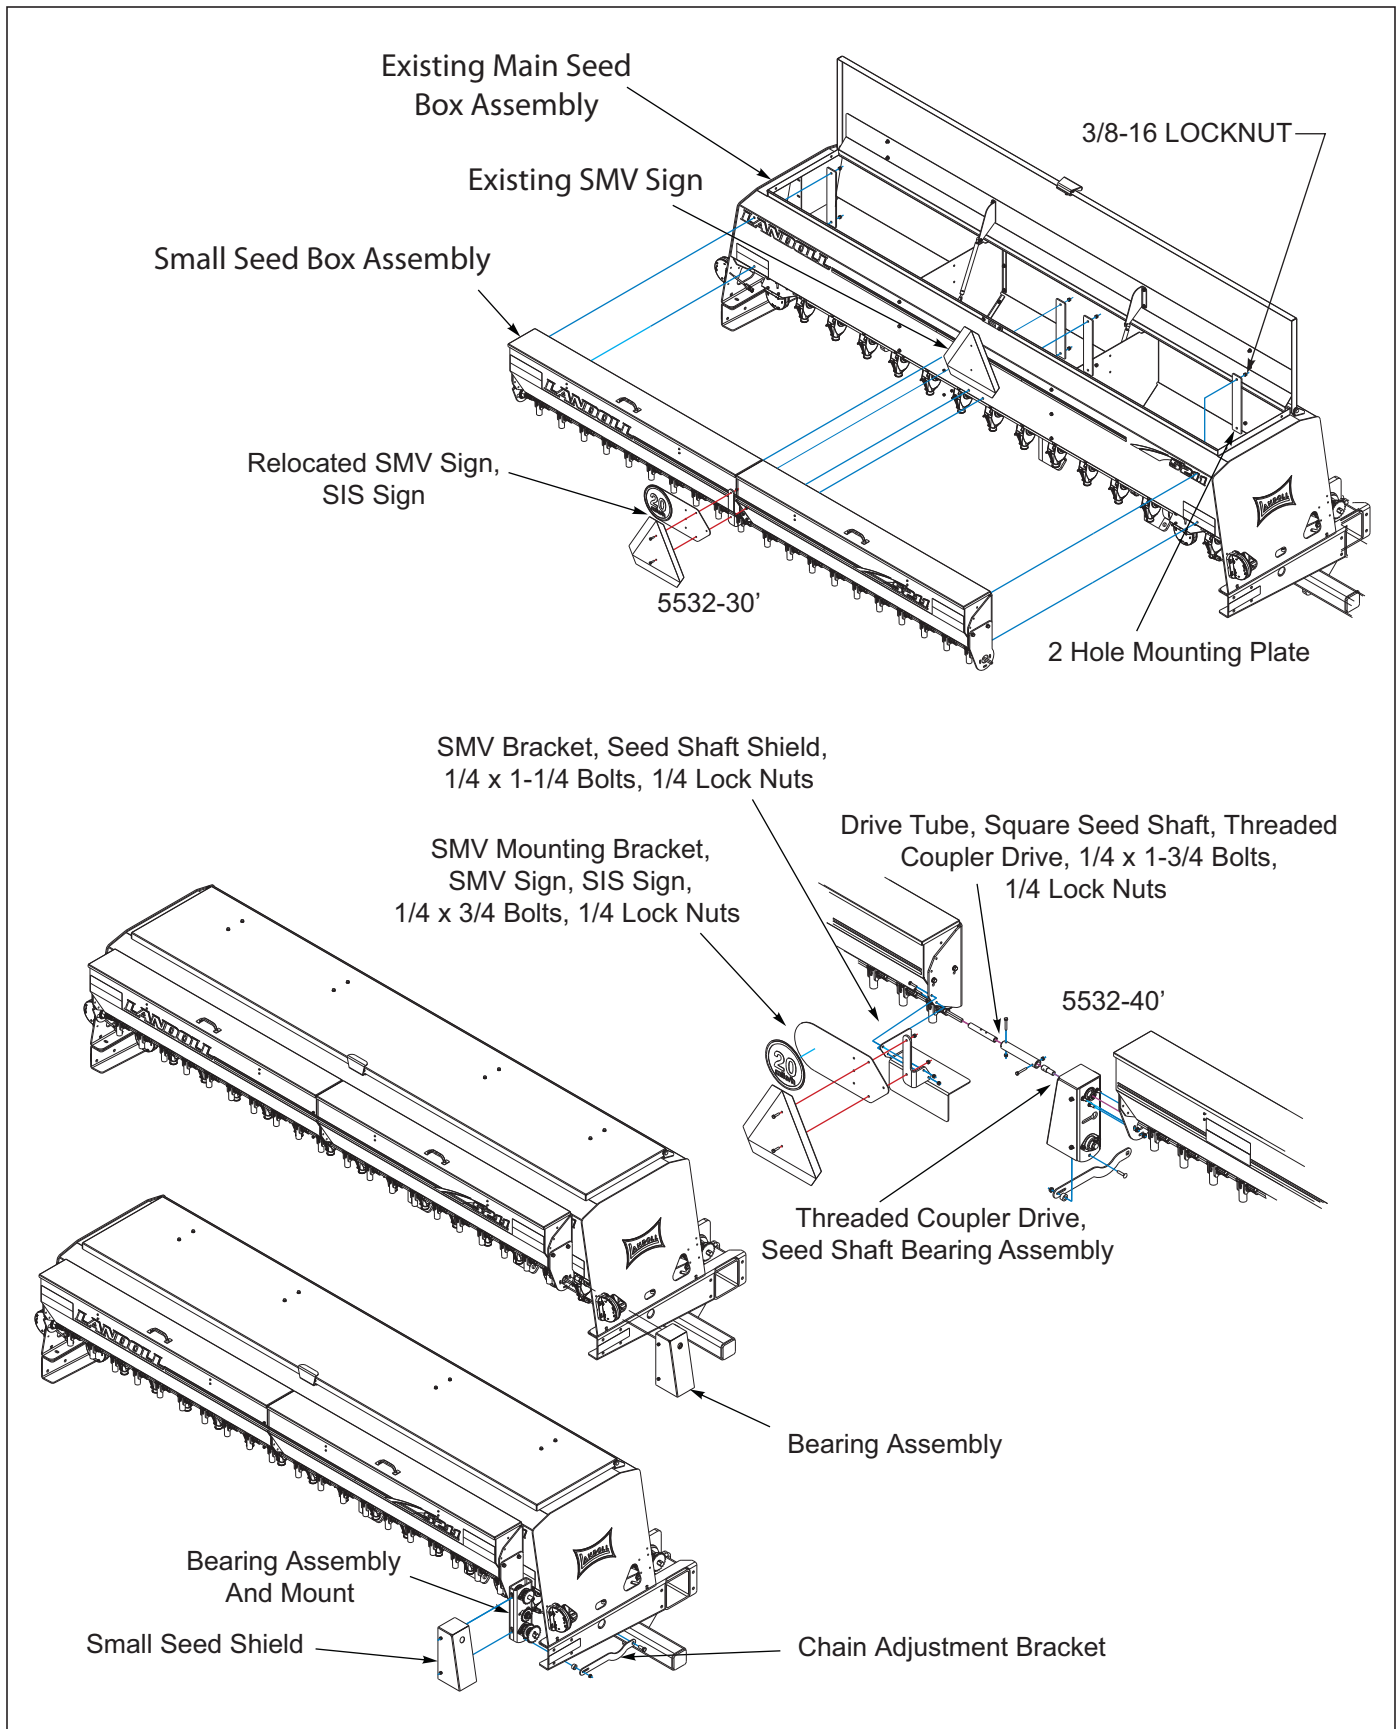

Figure 3-3: Small Seed Assembly Overview
See Figures 3-3 for small seed attachment overview. Use these instructions to install the optional small seed attachment to the rear main seed box of the 5532 Grain Drill.
4. Remove the 3/8" hex lock nuts and 2-hole mounting plates from the front of the small seed box assembly **See Figure 3-3**.
17. For 40' drills, wing braces screw the threaded coupler drive into the open end of the seed shaft bearing assembly on each wing **See Figure 3-3.** Slide the square end of the drive tube over the square seed shaft of the left small seed box. Connect the drive tube and threaded coupler drive with the 6" shaft coupler using 1/4-20 x 1-3/4 hex head cap screws and hex lock nuts.
20. Attach the SMV sign and SIS sign to the SMV mounting bracket with 1/4-20 x 3/4 hex head cap screws and hex lock nuts. Using 1/4-20 x 1-1/4 hex head cap screws and hex lock nuts, attach the SMV and bracket to the seed box mounting bracket extending below the small seed boxes in the center of the machine **See Figure 3-3.**